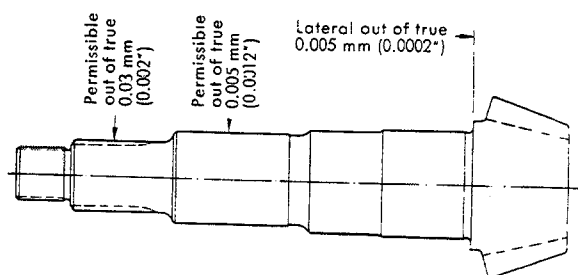

Fig. H 3a/22
22. First check the bevel drive gear for true run. The applicable tolerances will be seen from Fig. H 3a/22. Strictly adhere to the specified values, as otherwise rear axle noises may develop. If the bevel drive gear is unserviceable, it must by all means be exchanged together with the ring gear.